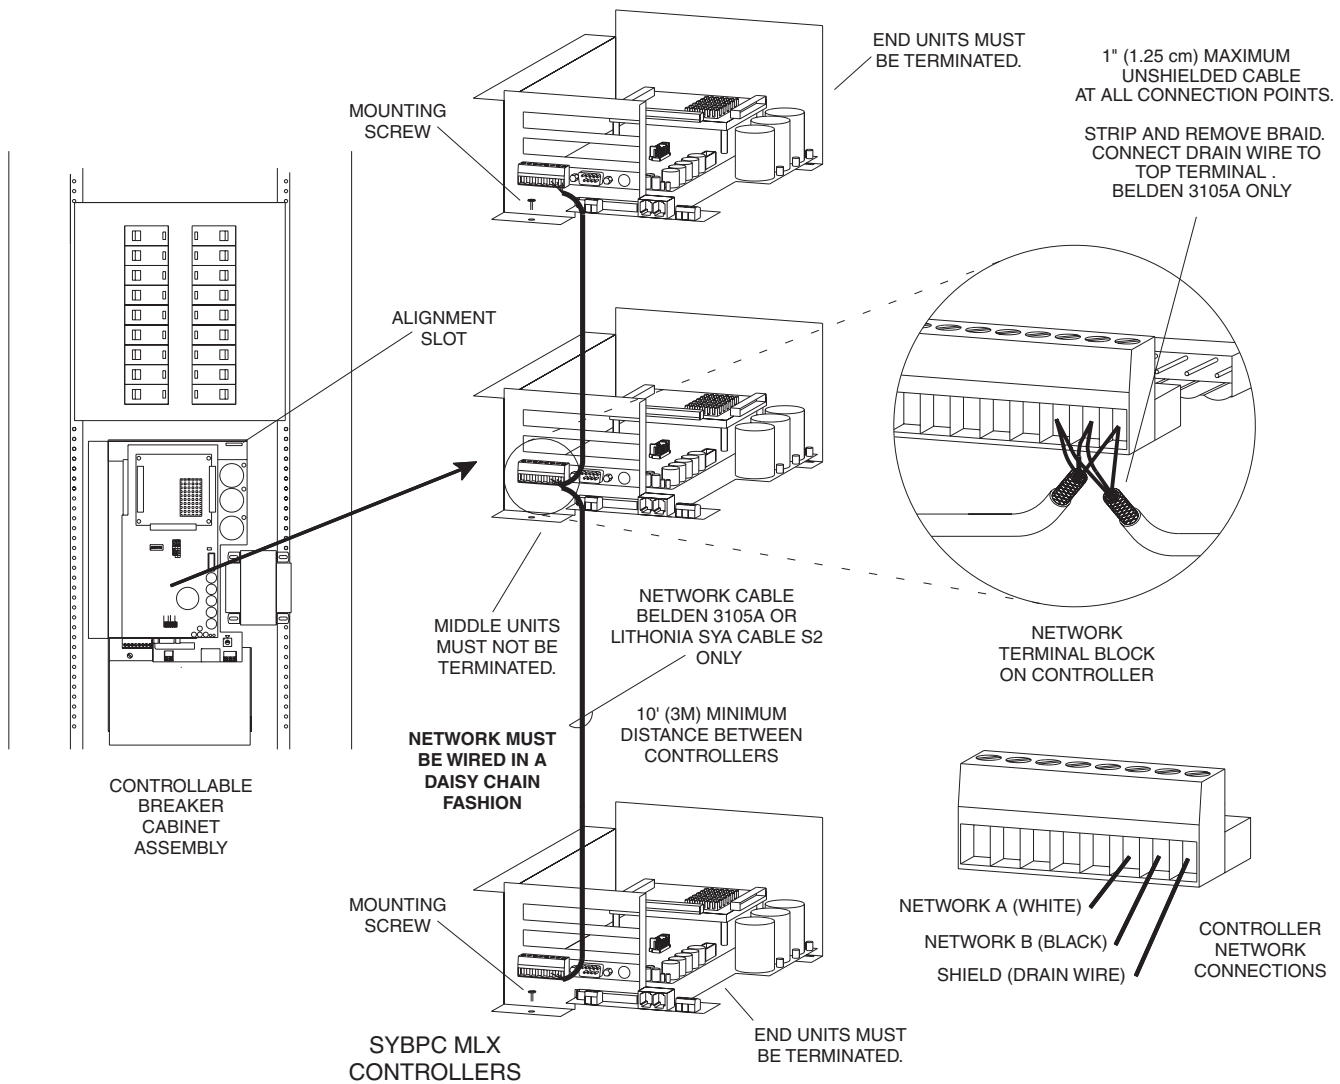

Figure 4 - SYBP MLX Controller Wiring Details
4. On MLX controllers, connect the S2 cabinet communication network cable to the controller's network terminal block. (See Figure 4 for details) Before installing the controller, consult the MLX controller installation instructions for important information and detailed installation drawings.